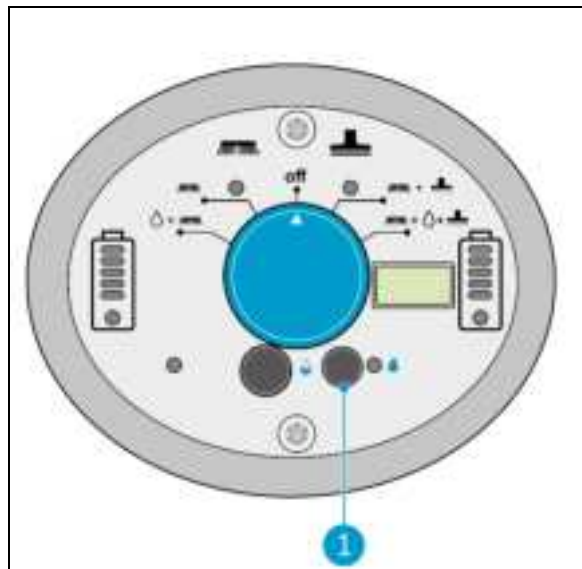

Figure 23
1. Turn on the ECO mode by pushing the ECO button (Figure 23, pos 1).